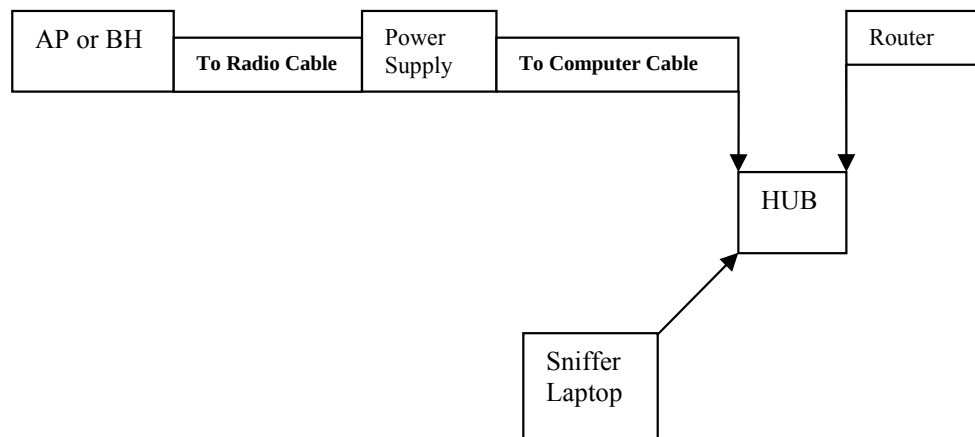

Figure 175: Protocol analysis at AP or BH not connected to a CMM
The configuration for analyzing traffic at an AP or BH that *is not* connected to a CMM is shown in Figure 175.
- as shown in Figure 175 on Page 462.